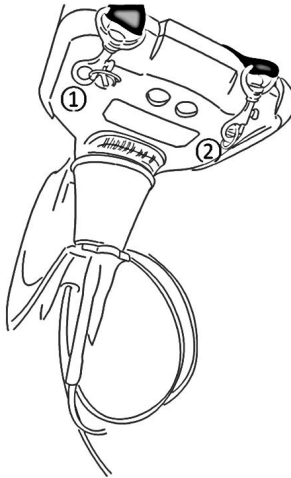

Figure 8-3 ① and ② fixed positions
- 1) Respectively hang a buckle on the left and right sides of the back of the main unit (see Figure 8-3), as the ①, ② fixed positions;